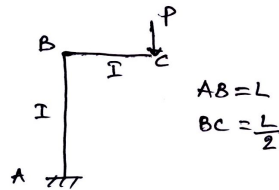

Fig.Q8(a)
- 8 a. Using Castigliano's theorem, determine the vertical and horizontal deflection at free end of a bracket shown in Fig.Q8(a).